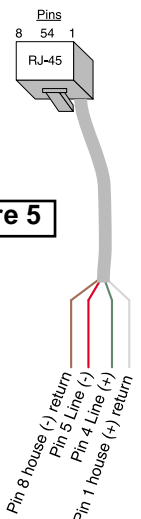

Figure 5
A. Security Interface (refer to *Figure 5* for Pin Out)